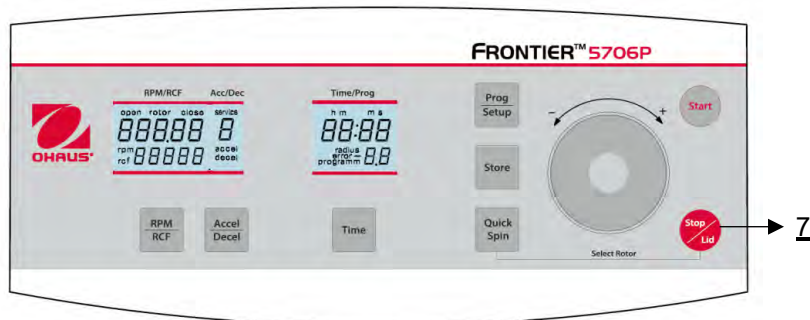

Figure 26
By the **"Stop/Lid"** key (7) (see **Figure 26**) you can interrupt the run at any time. After pressing the key, the centrifuge decelerates with the respective pre-selected intensity down to stand still.